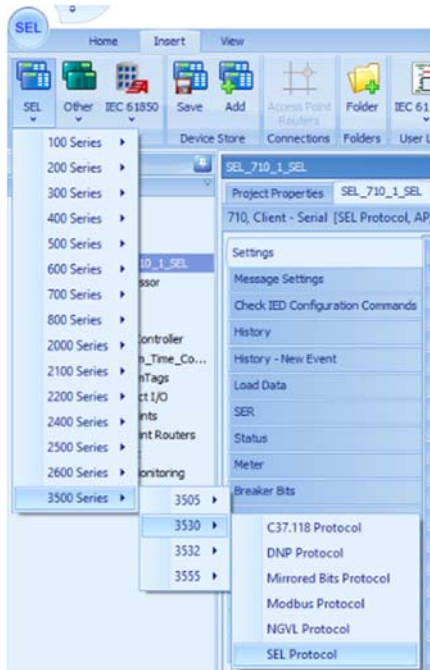
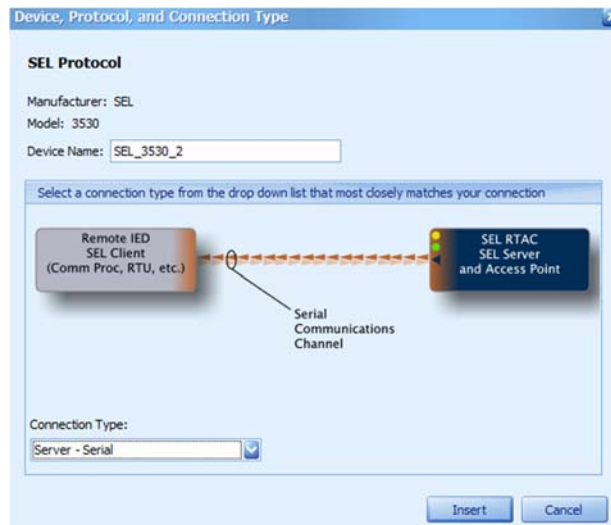

Figure 93: Add SEL-3530 Device
Figure 94: SEL-3530 Connection Type
94. On the Insert tab, select the SEL device dropdown and add the SEL-3530 as a serial server using SEL Protocol (Figure 93 and Figure 94).